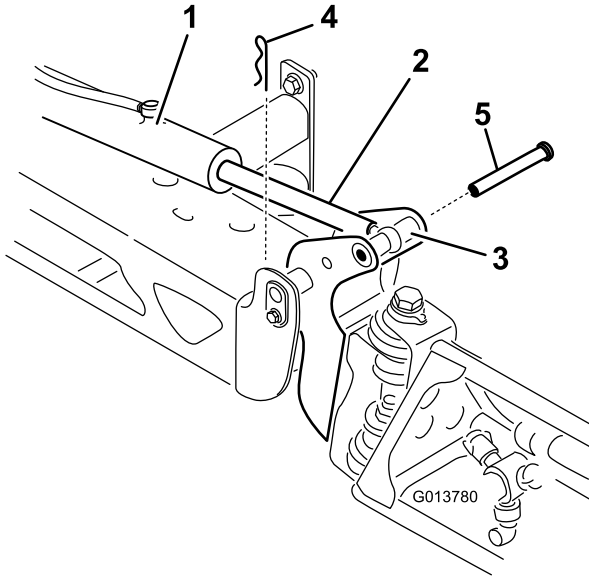

Figure 148
2. Remove the cotter pin from the pivot pin (Figure 148).
3. Lift up on the boom and remove the pin (Figure 148), and slowly lower the boom to the ground.
9. While holding the boom, insert the pin through both boom pivot and rod end (Figure 148).